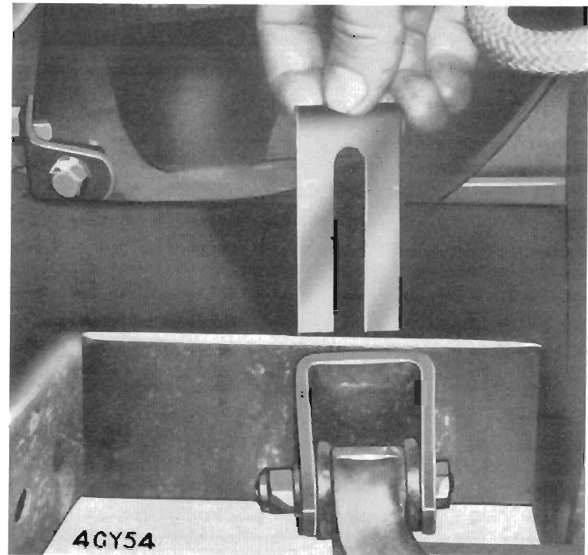

Fig. 23. Fitting shims between lower inner fulcrum bracket and chassis frame
11. Secure the upper (10 and 12) and lower wishbone (35) and inner fulcrums (32) to the chassis and sub-frame, ensuring that the shim packs are correctly located between the fulcrum brackets and chassis frame as shown on Fig. 23. Do not tighten bolts 36, 11 and 33, Fig. 6, at this stage.